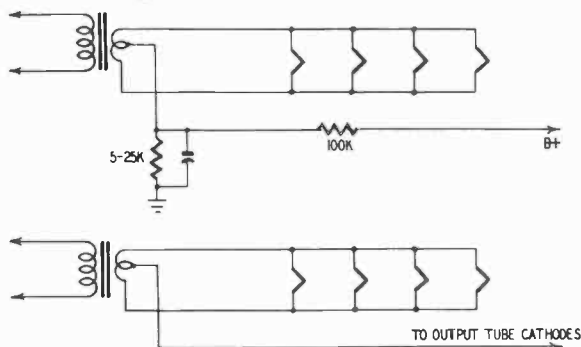

Fig. 907-a. -b. *Biasing the filament strings will help reduce hum.*
4. A very simple cause of increased hum is the accidental grounding of one side of the filament string in amplifiers using positive bias on the filaments as shown in Fig. 907. This grounding is not likely to occur when the amplifier is in normal use; but it can occur when troubleshooting, signal-tracing or resoldering joints or when a loose piece of solder or end of wire rolls against a filament lug on a socket. Grounding one side of such a filament loop will remove the biasing and therefore the hum reduction it provides; it will also unbalance the loop. A simple ohmmeter check can show this up. In a biased filament string the reading from either filament contact on a socket to ground should provide a high resistance—at least 300 ohms if the positive bias comes
from the cathodes of the output tubes as in Fig. 907-b and probably anywhere from 5,000 to 20,000 ohms if the bias is provided by a voltage divider across the power supply as in Fig. 907-a. If the resistance is zero, the string is grounded; search for the point of grounding. It may be nothing more than a filament lug bent down so it contacts a grounding lug on the socket frame. A tube with a heater-cathode short will do it, too.